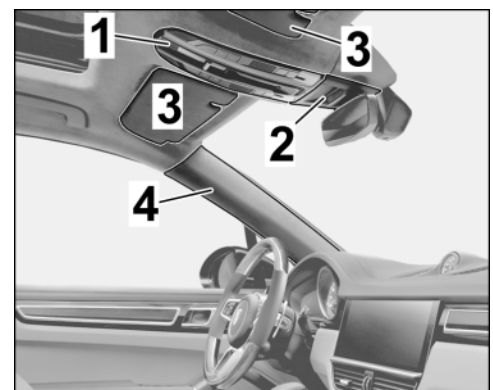

Figure 3
- Expose front roof/(interior) rear-view mirror area (⇒ *Figure 3*)